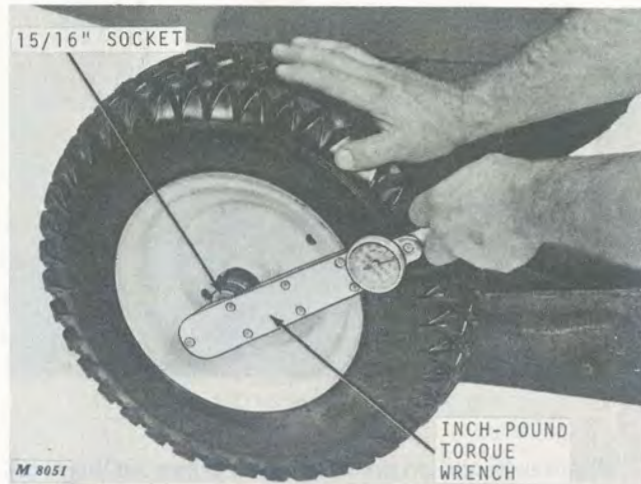

Fig. 13-Adjusting Wheel Bearing
4. While rotating the wheel and tire, tighten the slotted nut to 60 to 120 in-lbs torque to seat the bearings, Figure 13. Back off slotted nut until wheel turns freely.